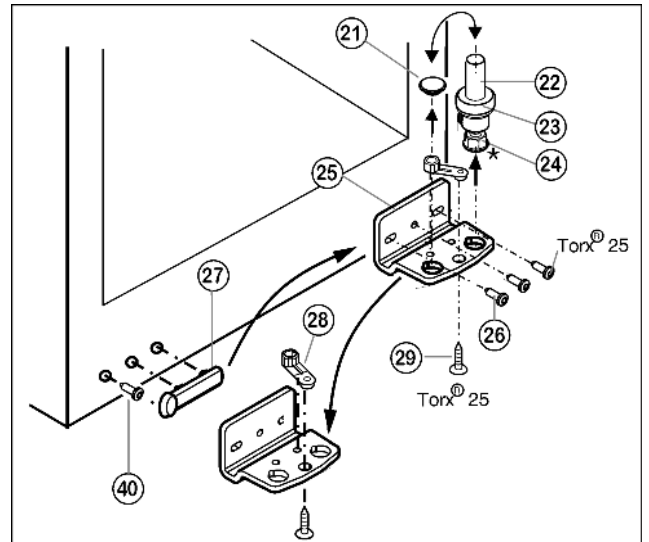

Fig. 5
- ▶ Lift out the bearing pin Fig. 5 (22) together with washer Fig. 5 (23) and adjustable-height foot* Fig. 5 (24).
- ▶ Lift off the stopper Fig. 5 (21).
- ▶ Unscrew Fig. 5 (26) the turn hinge Fig. 5 (25).
- ▶ Unscrew Fig. 5 (29) the bearing element Fig. 5 (28), transfer it to the opposite location hole of the turn hinge and screw it firmly into place.
- ▶ Carefully lift off the cover on the handle side Fig. 5 (27), undo the screw Fig. 5 (40) and transfer both to the opposite side.
- ▶ Screw the turn hinge Fig. 5 (25) firmly into place on the new hinge side, possibly using a cordless screwdriver (with 4 Nm).
- ▶ Re-insert the stopper Fig. 5 (21) into the other hole.
- ▶ Re-insert the bearing pin Fig. 5 (22) together with the washer and adjustable-height foot*. In so doing, pay attention that the locating lug points backwards
- ▶ Lift the stopper (33) out of the door bearing bush and transfer it.
- ▶ Dismantle the door handle (32), stoppers (33) and pressure plates* (34) and transfer to the opposite side.
- ▶ Place the door from above onto the lower bearing pin Fig. 5 (22).
- ▶ Insert the upper turn hinge (12) in the door on the new hinge side.
- ▶ Screw the upper turn hinge (12) firmly into place (with 4 Nm) (2x Torx® 25) (13). Possibly make preliminary holes with a bradawl or use a cordless screwdriver.
- ▶ Snap the cover (10) and cover (11) into place at the opposite side.
- ▶ Align the door to the appliance housing by way of the two oblong holes in the bottom turn hinge Fig. 5 (25). To do so, unscrew the middle screw.